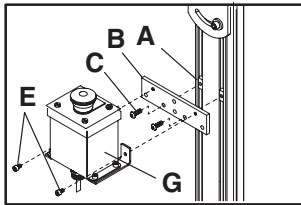

Figure 9
1. Insert two Single Drop-in T-bars (Figure 9, item A) into Leg slot.
2. Attach mounting plate (B) to T-bars (A) with screws (C).
3. Attach Pushbutton Box assembly (Figure 9, item G) to mounting plate (B) with screws (E).